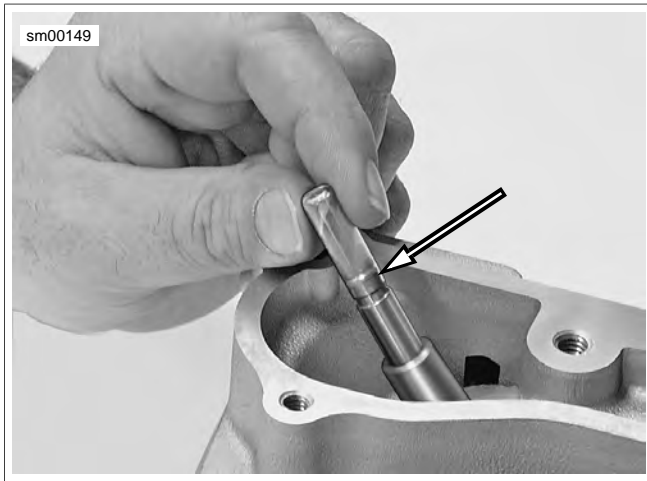

Figure 3-60. Valve Guide Seal Protector Sleeve
6. See Figure 3-60. Place a protective sleeve over the valve stem keeper groove.